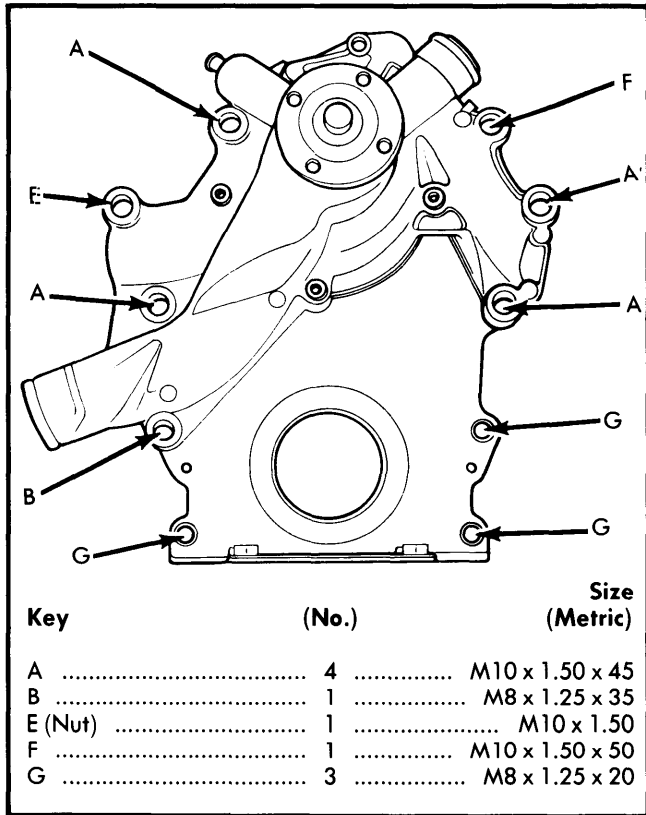

Fig. 10 Engine Front Cover Bolt Locations
2) Install front cover assembly over crankshaft end into position on oil pan while inserting water tube into intake manifold. Align dowel holes in cover with dowels on block. Install retaining bolts in proper locations and tighten. See Fig. 10.